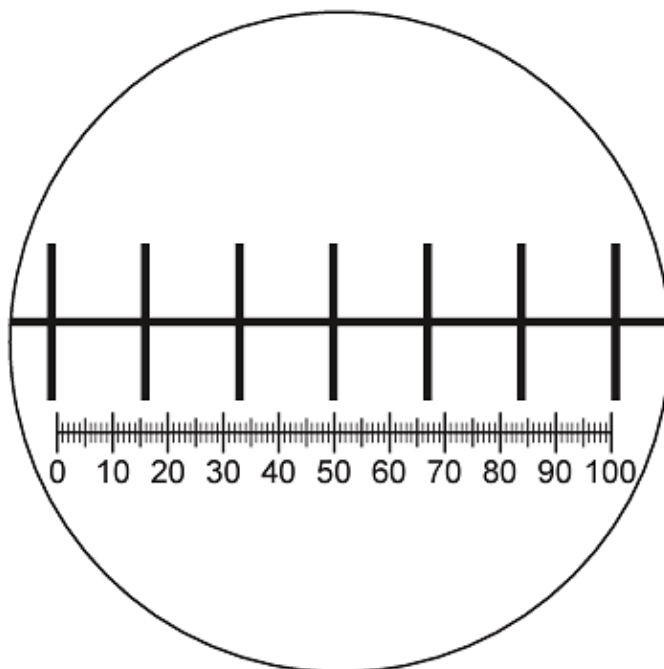
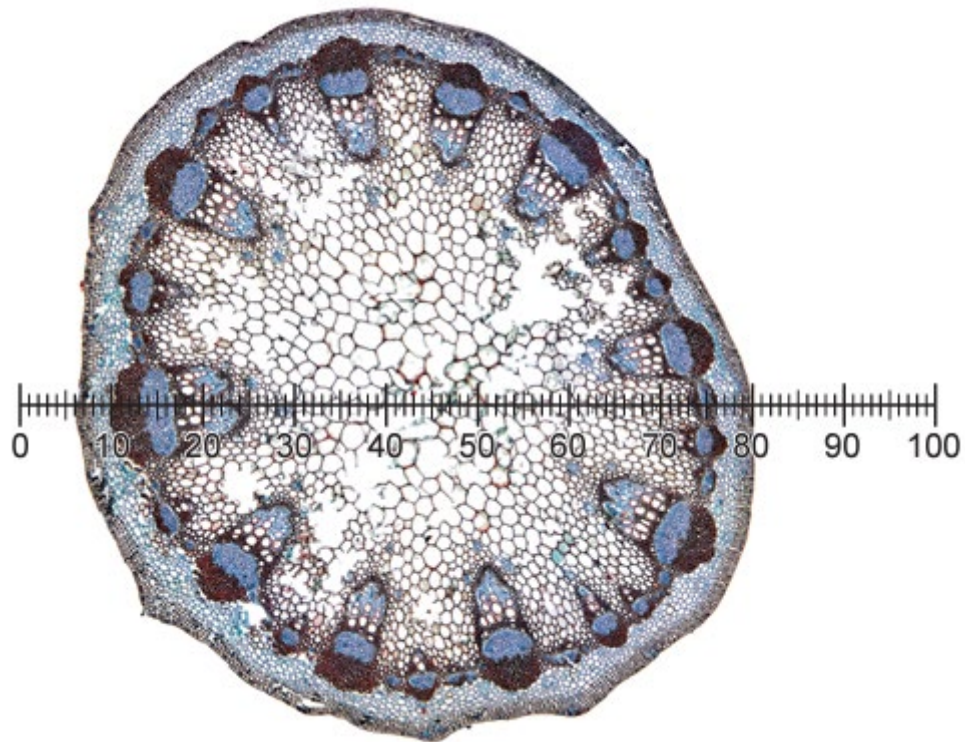

Fig. 3.2
Fig. 3.3
- (b) Fig. 3.2 shows a diagram of a stage micrometer scale that is being used to calibrate an eyepiece graticule.
- (i) Use Fig. 3.2 to calculate the actual length of one eyepiece graticule unit.
Fig. 3.3 shows a photomicrograph of a transverse section of the stem of a different plant to **K1**. The same microscope and lenses in Fig. 3.2 were used to view this transverse section. The eyepiece graticule has been placed across the diameter of the stem section.
- (ii) Use the calibration of the eyepiece graticule from **(b)(i)** to calculate the actual diameter of the stem section in Fig. 3.3.
- (iii) Identify **three** observable differences, other than size and colour, between the stem section on **K1** and the stem section in Fig. 3.3.